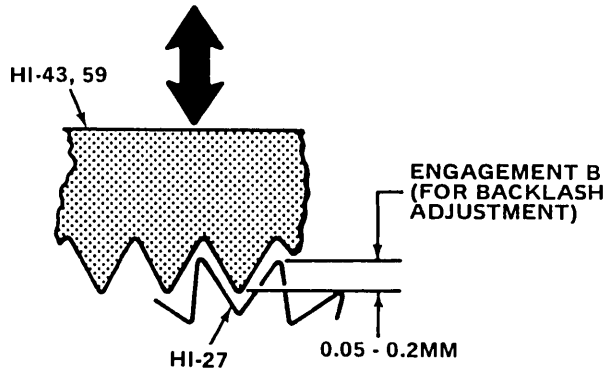

Figure 5-15. BACKLASH ADJUSTMENT, BEVEL GEAR (HI-43, 59)
When performing the next two steps, adjust one set of gears for proper backlash, then move ribbon reversing rod (HI-92) in opposite direction (to engage gears) and adjust the other set of gears (HI-27, 43) or (HI-27, 59), repeating steps B1 through B2. (See Figure 5-15)
2. Adjust bevel gear up or down on ribbon spool shaft (HI-38, 57) to obtain a vertical adjustment (engagement B) of 0.05 to 0.2 millimeters (0.002-0.008-in.) between the teeth of the opposing gears (HI-27) as they mesh (See Figure 5-15). Tighten allen-head screws on bevel gear (HI-43, 59).